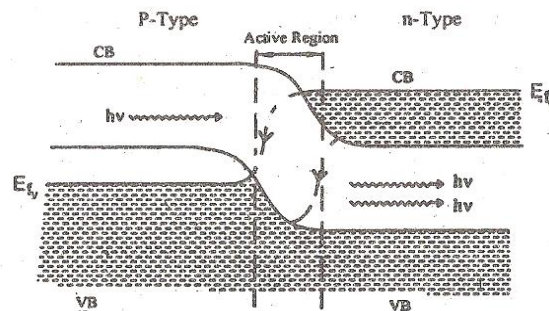

Fig 3.19
3. At this junction, if a radiation having frequency (ν) is made to incident on the p-n junction then the photon emission is produced as shown in fig 3.19